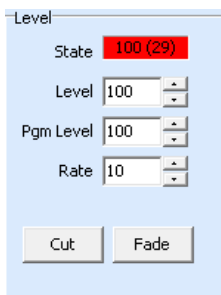

Figure 240 AOV Sub-Device Contribution Level to PGM Mixer
- If the sub-device is an audio over (AOV), then the value configured will set the level of the audio contribution to the mixer. Fig. 240 shows the 'State' field of the ICE GUI after the button for the AOV has been pressed, with the sub-device 'Level' configured at 100 and the 'PGM Level' ducked to 30% of its original contribution (in brackets).
Applies to AOV sub-devices only (Fig. 240). It is greyed out on all other device / source configuration forms.
A configurable value in the range 0-100, allowing an adjustment of the percentage level of audio contribution currently on the PGM whilst the sub-device is active. Fig. 240 shows the 'State' field of the ICE GUI after the button for the AOV has been pressed, with the sub-device 'Level' configured at 100 and the 'PGM Level' ducked to 30% of its original contribution (in brackets).